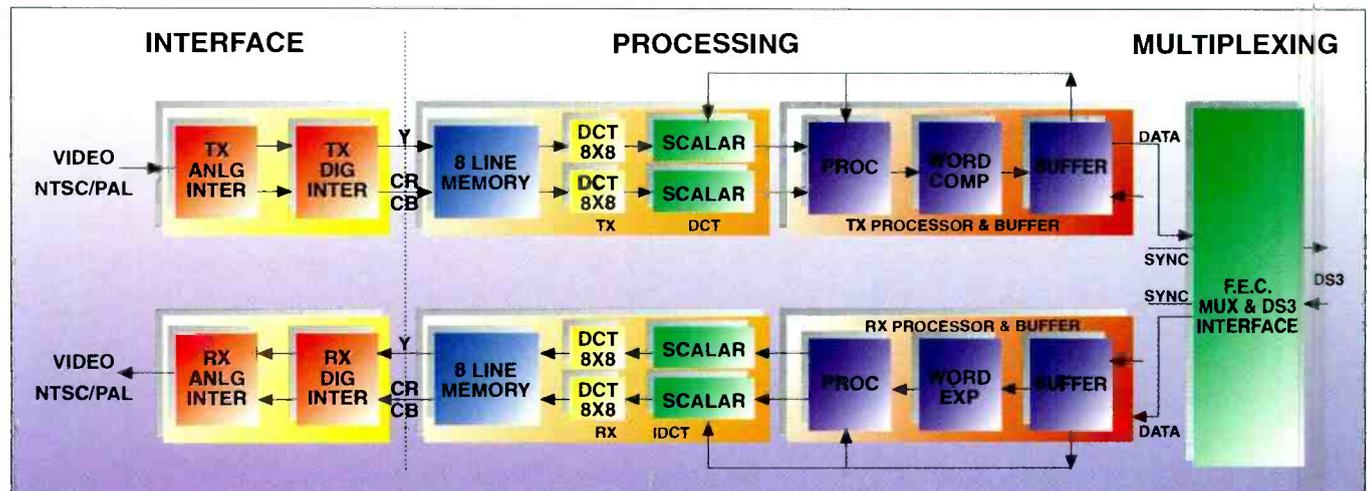

Figure 1. Basic block diagram of the video portion of the codec used by Pacific Bell to provide AVS-CD service.
DCT operation is performed in the DCT while entropy coding is performed in the buffer and processor unit, which also provides a buffer to adapt the variable coding rate to the fixed line bit rate. The bit-rate reduction is achieved by applying the DCT algorithm first on rows and then on columns of each 8x8 size block of luminance (Y) and chrominance difference signals (Cr,Cb). Two different processors operate in parallel, one for luminance, the other for chrominance differences Cr and Cb alternately. The computational structure of DCT has different modes of operation that are selected based on the occupancy of the buffer store at the codec output. These modes include scaling of transformed data with a multiplicative coefficient adapted in relation to buffer occupancy. (See Figure 1.)